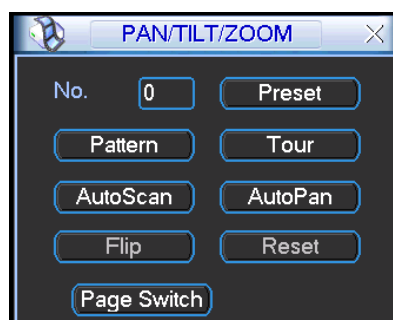
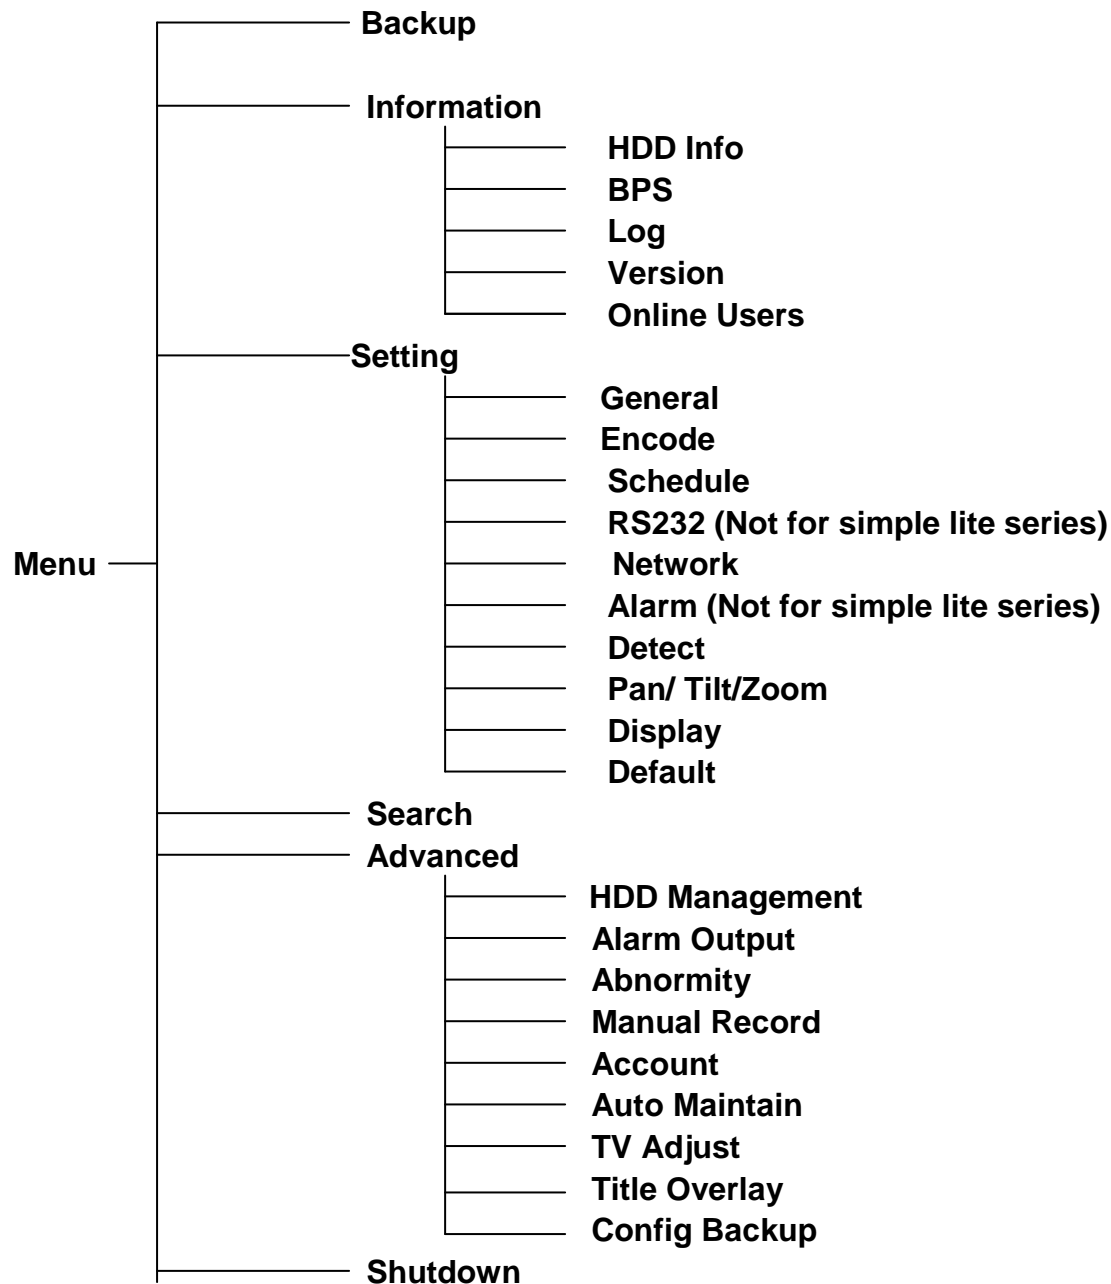

Figure 4-40
Figure 4-45
In _ Figure 4-36, click page switch button, the interface is shown as in Figure 4-40. Here you can activate the following functions:
- The following setups are usually operated in the _Figure 4-36, Figure 4-39 and Figure 4-40.
In Figure 4-40, please input preset number in the No. blank, and click preset button.
In Figure 4-40, click "Auto Scan" button, the system begins auto scan. Correspondingly, the auto scan button becomes Stop button. Click stop button to terminate scan operation.
In Figure 4-40, click page switch button, you can see an interface is shown as below. See Figure 4-45. Here you can set auxiliary function. The aux value has relation ship with the Aux button of the decoder.